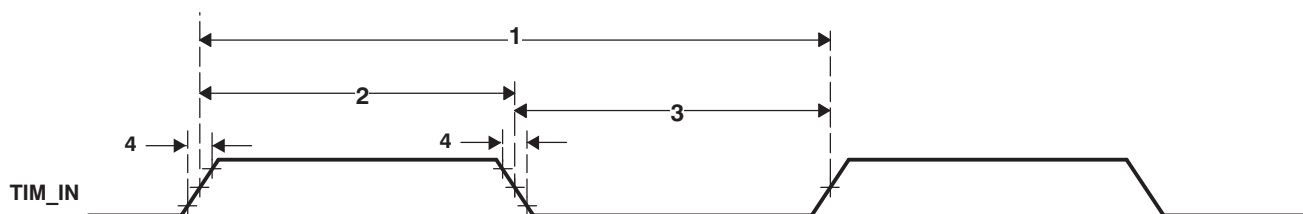

**Figure 5-46. Timer Input Timing**
**Table 5-45. Timing Requirements for Timer Input(1) (2) (3) (see Figure 5-46)**